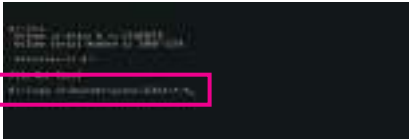

Figure 1
- For the GIGABYTE SATA2, type (Figure 1):^(Note)